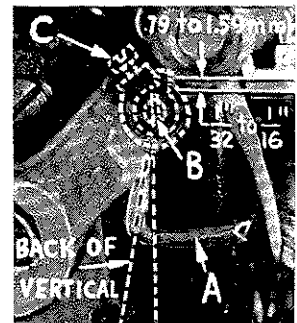

Fig. 8A
Insert upper spreader (A, Fig. 8A) in its holder. Screw (B) holds upper spreader in its holder, and permits it to be pushed in or out, or turned around its shank. Insert spreader holder into spreader shaft, if it is not already in place. Screw (C, Fig. 8A) on clamp collar holds spreader holder in the shaft, and allows holder to be rotated or adjusted laterally.
Preliminary Setting: When upper spreader is at the right end of its stroke, spreader holder should be set to position spreader shank slightly back of vertical (Fig. 8A). Top end of spreader shank should extend  $\frac{1}{32}$  to  $\frac{1}{16}$  inch (.79 to 1.59 mm) above the spreader holder for Style 39500 RM. The same is true of Style 39500 RR except the spreader holder should be set to position spreader shank approximately vertical. Top end of spreader shank should extend  $\frac{1}{16}$  to  $\frac{3}{32}$  inch (1.59 to 2.38 mm) above the spreader holder for Style 39500 RR.